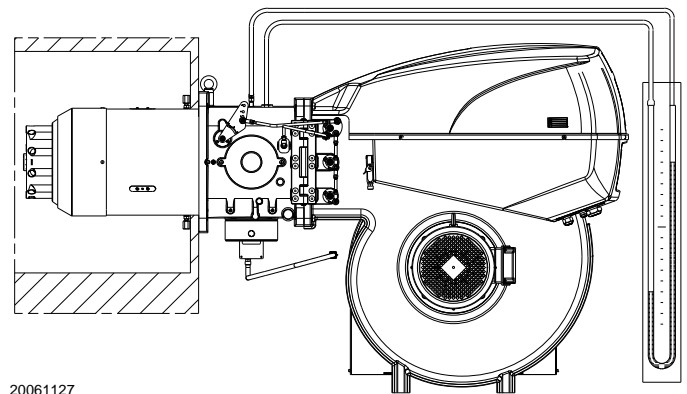

Fig. 27
- Fit a U-type pressure gauge or a differential pressure gauge (Fig. 27), with socket (+) on the gas pressure of the pipe coupling and (-) in the combustion chamber. Used to approximately calculate the MAX burner output.
The arrival of gas at the pipe coupling is indicated by the U-type pressure gauge (Fig. 27).